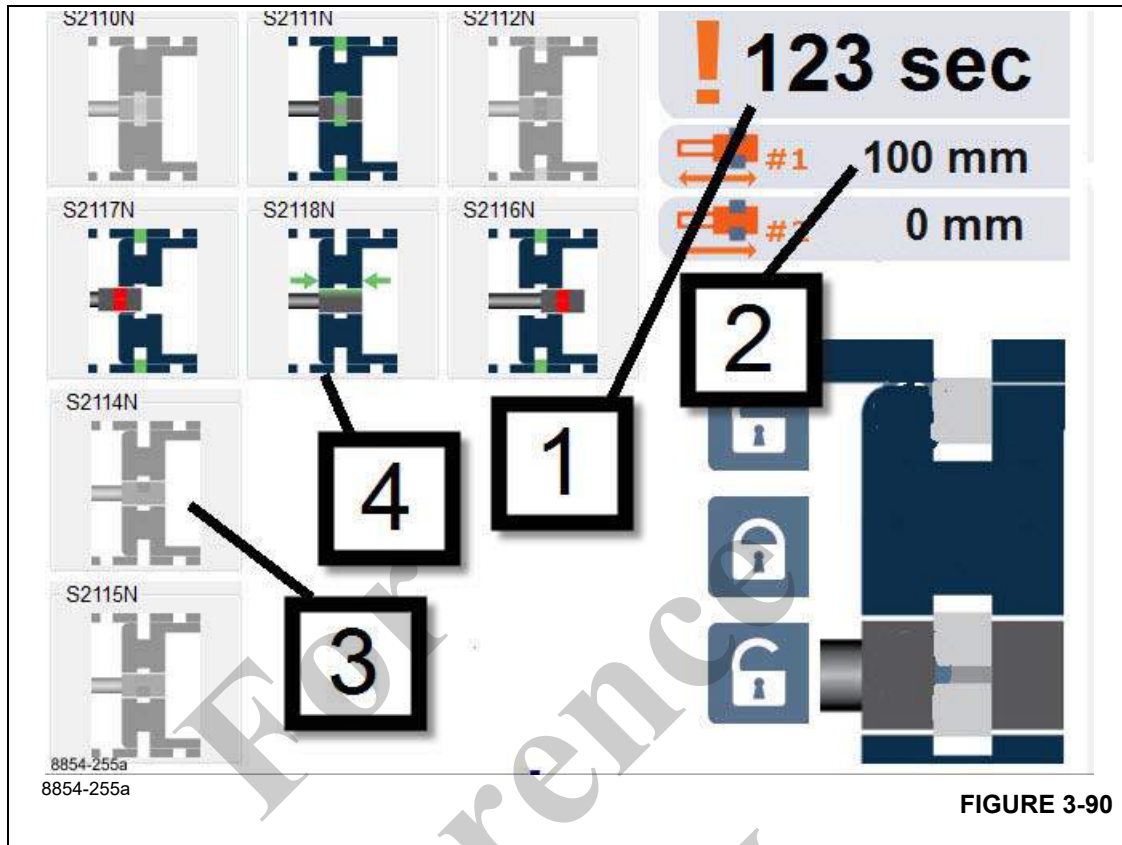

FIGURE 3-90
The emergency program has a time limit. The display (1), (Figure 3-90) shows the remaining time for operating the emergency program.
If the display (2), (Figure 3-90) shows an obviously unrealistic value, such as -1100 mm, then there is an error on the precision length sensor length indicator of the CCS.
In the display, items 3 and 4 (Figure 3-90) are examples of indicators for proximity switches. Item 3 is switch S2114N, and it is shown in a dimmed fashion. This means the switch has been considered OFF. Item 4 is switch S2118N, and it is shown in active colors; this switch is considered ON.
- Retract the telescopic section slowly and as far as possible, refer to (Table 3-2.) for the expected value for the precision length sensor (Item 2 in (Figure 3-90)) when the boom sections are fully retracted.
value for the precision length sensor (Item 2 in (Figure 3-90)) when the tele cylinder is near a connection to a boom section.